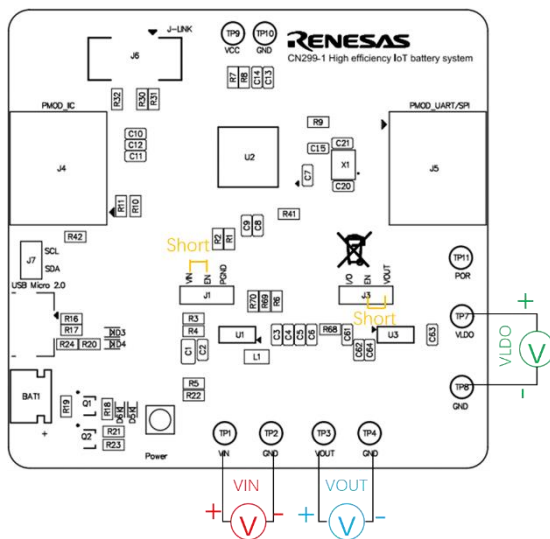

Figure 2 The Connection of the Default Output
1. Connect the power supply to the input terminals VIN (TP1) and GND (TP2). Connect the load to the output VOUT (TP3) and GND (TP4). Short VIN and EN on J1, and EN and VOUT on J3. Make sure the setup is correct prior to applying any power or load to the board. Refer to Figure 2.
3. Verify the output voltage is 3.3V(VOUT) and 1.8V(VLDO). Refer to Figure 2.
1. Connect the battery to BAT1. Connect the load to the output VOUT (TP3) and GND (TP4). Short VIN and EN on J1, and EN and VOUT on J3. Make sure the setup is correct prior to applying any power or load to the board. Refer to Figure 2.
1. Connect PC to CN299-1-ISL9122A board using USB cable. Connect the load terminals to the output VOUT (TP3) and GND (TP4). Short VIN and EN on J1, and EN and VOUT on J3. Make sure the setup is correct prior to applying any power or load to the board. Refer to Figure 2.
2. Verify the output voltage is 3.3V(VOUT) and 1.8V(VLDO). Refer to Figure 2.